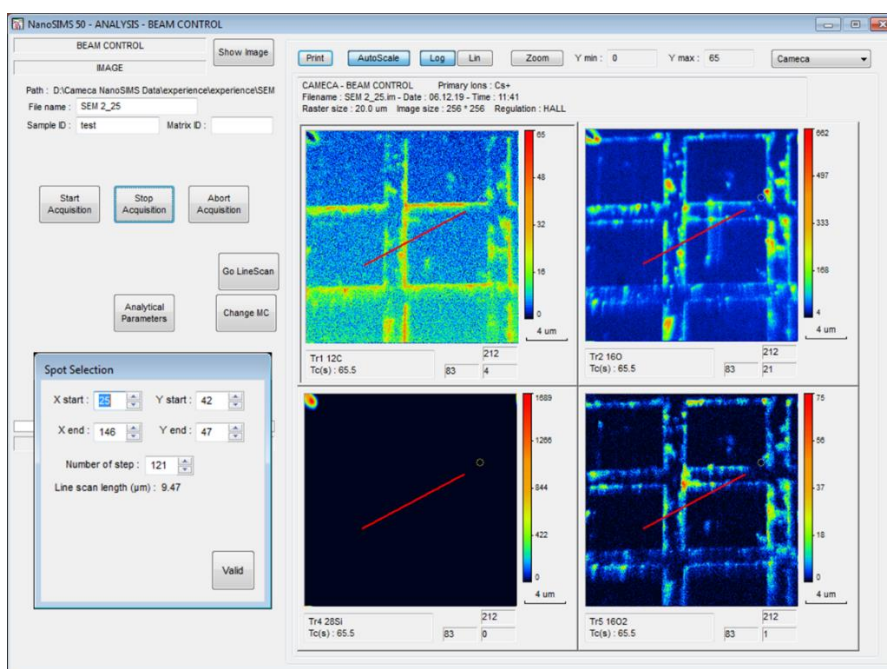

Figure 376: DEFANALYSIS: drawing the line prior a linescan (beam control)
- Once the image is acquired, draw a line by clicking and dragging the cursor over the image (Figure 376). You can adjust the position of the line by modifying its coordinates via the “spot selection” window.